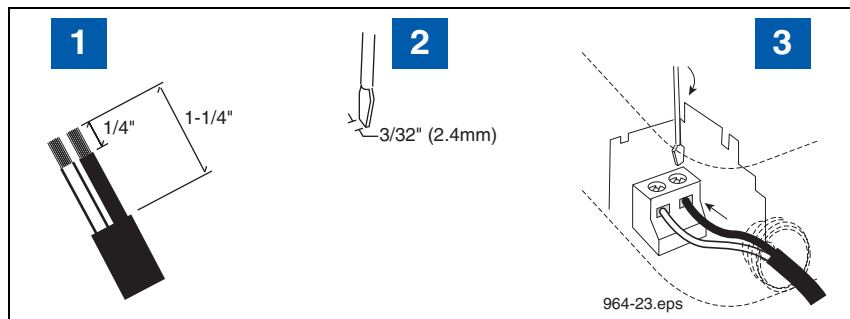

Figure 20. Connecting Input Wiring To Transmitter Terminal Blocks
4. Strip back cable jacket and wires as shown in Figure 20.
LEGEND FOR NUMBERED BOXES IN Figure 20
7. Strip back cable jacket and wires as shown in Figure 20.
5. Slide the nut over the cable. Choose the correct size bushing and slide it over the cable. Dress the cable jacket according to the dimensions in Figure 20. Insert the cable into the appropriate opening at the bottom of the housing. Insert each wire into the appropriate terminal and tighten. Leave a small amount of slack in each wire. Slide the bushing into the bottom of the housing. Hand tighten the nut.
9. Slide the nut over the cable. Choose the correct size bushing and slide it over the cable. Dress the cable jacket according to the dimensions in Figure 20. Insert the cable into the appropriate opening at the bottom of the housing. Insert each wire into the appropriate terminal and tighten. Leave a small amount of slack in each wire. Slide the bushing into the bottom of the housing. Hand tighten the nut.